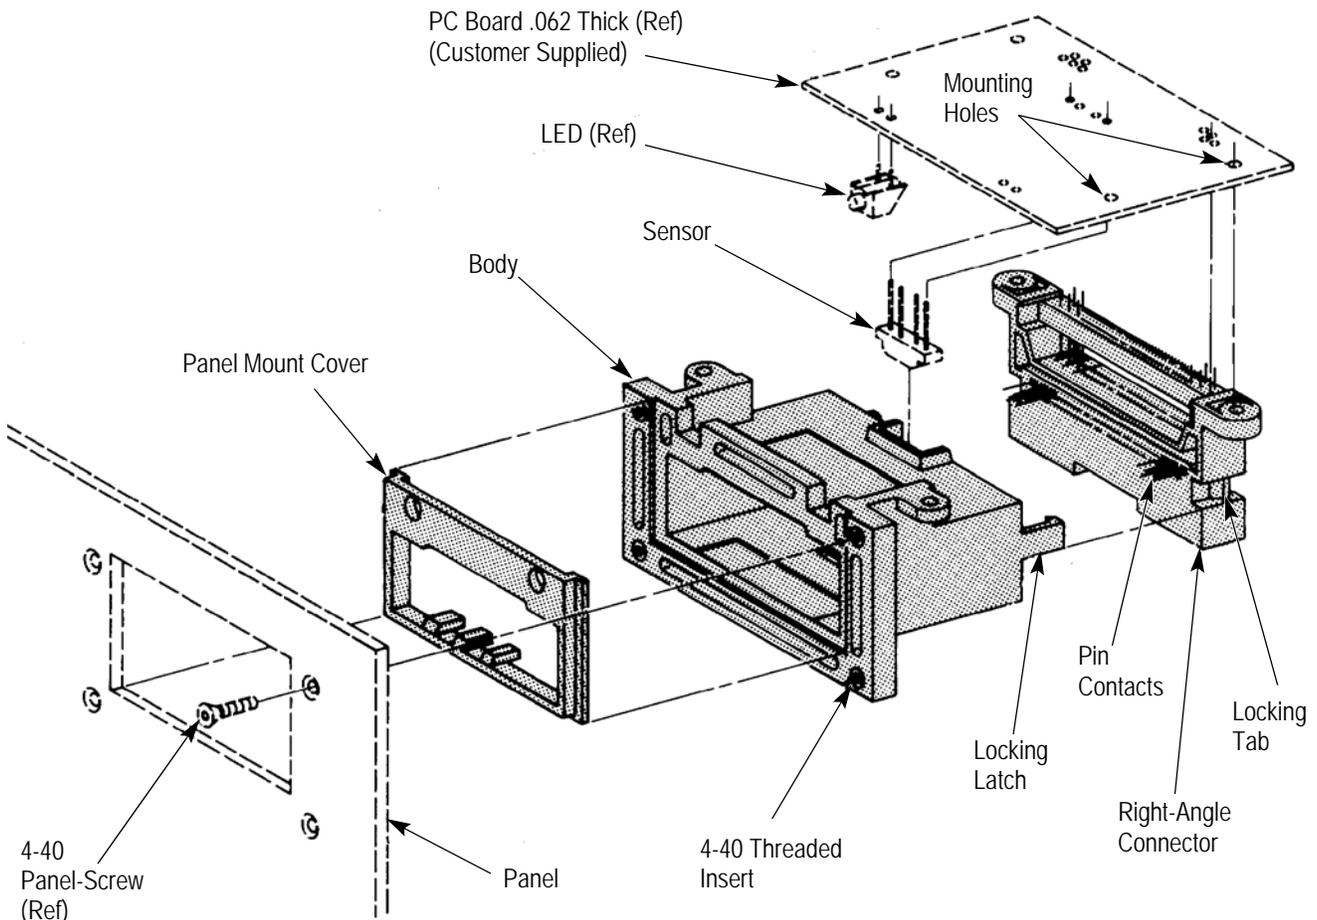

Figure 5
**3.2. Holder Assembly** (Figure 4 and Figure 5)